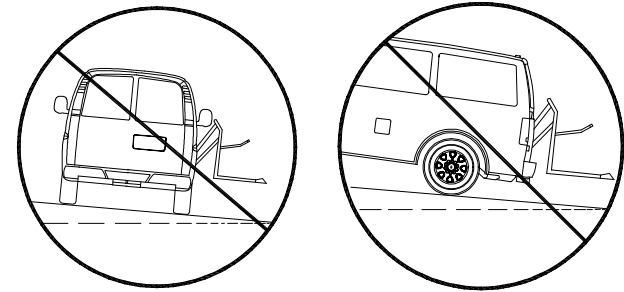

FIGURE 2-1: DO NOT DEPLOY LIFT WHEN VEHICLE IS ON SLOPED GROUND
- Refer to **Figure 2-1**. A hazardous situation may exist when using the platform or ramp if the vehicle is parked on either a side or front-to-rear slope. Operate the platform or ramp with the vehicle parked on level ground.